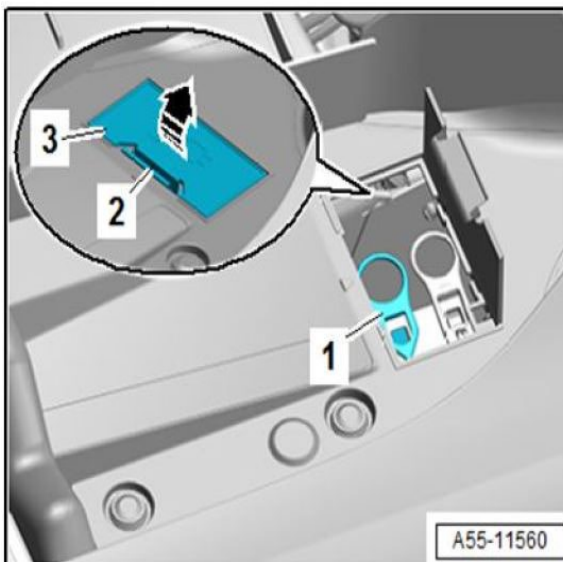

Figure 13: The plenum chamber door and manual release cable.
6. Release catch (2) on the plenum chamber and open the cover (3), then move the manual release cable (1) clear (Figure 13).